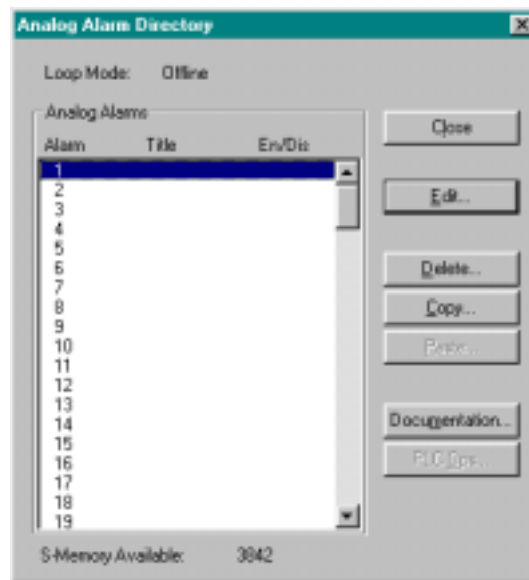

Figure 8.1
2. The Analog Alarm Directory dialog box appears (see Figure 8.1).
2. The Analog Alarm Directory dialog box appears (see Figure 8.1). The dialog box shows the Loop Mode, Alarm number (1-512) depending on the processor type, Alarm Title, and Enable/Disable state.